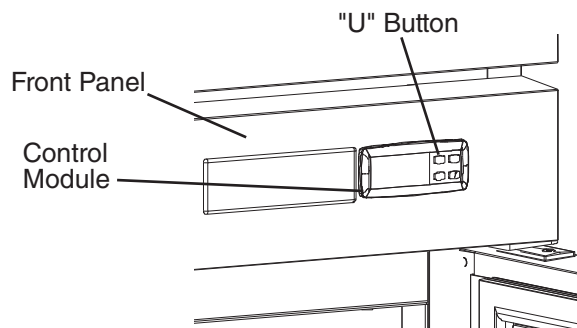

Fig. 26
- 2) If the cabinet temperature is not displayed on the control module, press and hold the "U" button on the control module until for 2 seconds. See Fig. 26.